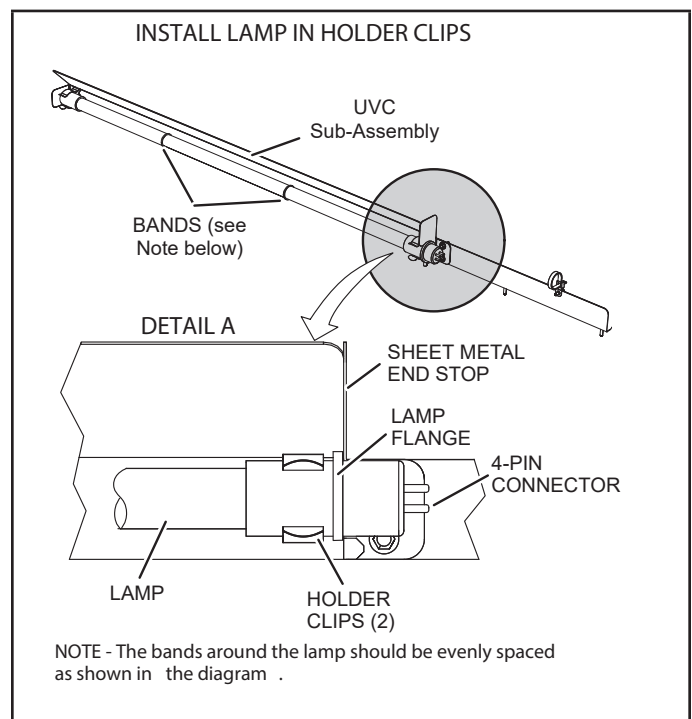

FIGURE 43
- 5 - Remove the (2) mounting screws of the UVC assembly. Carefully slide the complete UVC assembly out through the blower access door.
- 7 - Wear cotton gloves or use a cotton cloth when handling the new lamp. Place the new lamp in the holder clips of the UVC assembly. Verify that the lamp flange at the connector end is sandwiched between the lamp holder clip and the sheet-metal end stop (see FIGURE 43).